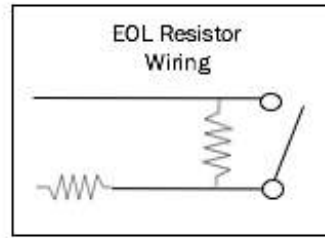

Figure 21 - EOL Resistor Wiring
- e) The other wire from the Brivo Onsite is connected to wire 2 from the switch, as shown in Figure 21.